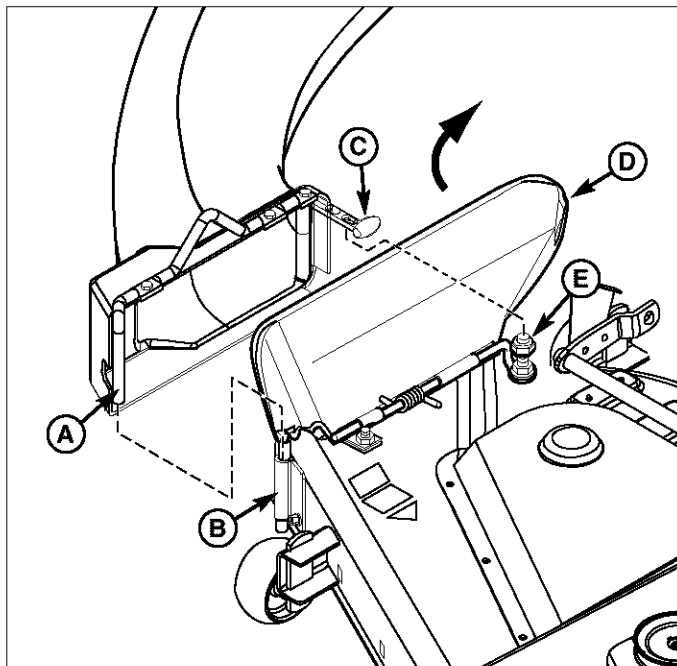

Figure 8. Install Lower Tube
1. Lift discharge deflector up (D, Figure 8).
2. Insert lower chute rod (A) into mounting plate (B).
3. Pull rubber strap (C) and secure by placing hole closest to knob in strap completely over locknut (E).